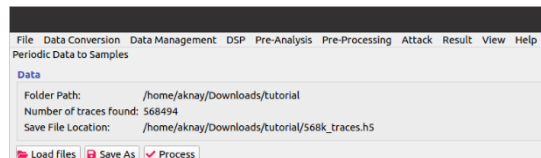

Figure 11: Periodic data to samples in data conversion
- (i) Click *'Load Files'* to load traces file in CSV format as shown in Figure 11.